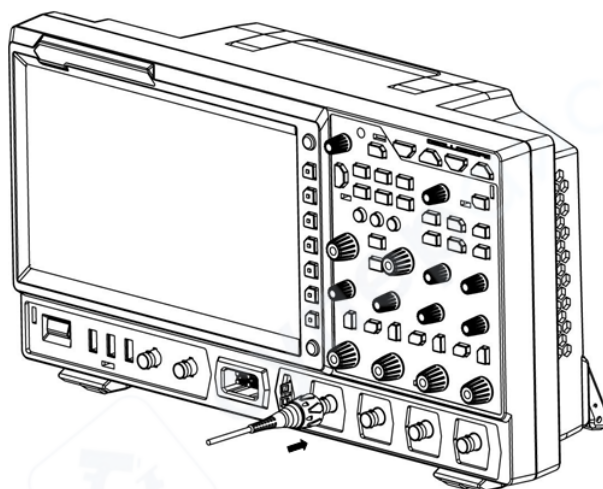

Figure 4.6 Connect the Passive Probe
1. Connect the BNC terminal of the probe to an analog channel input terminal of the oscilloscope on the front panel as shown in Figure 4.6.